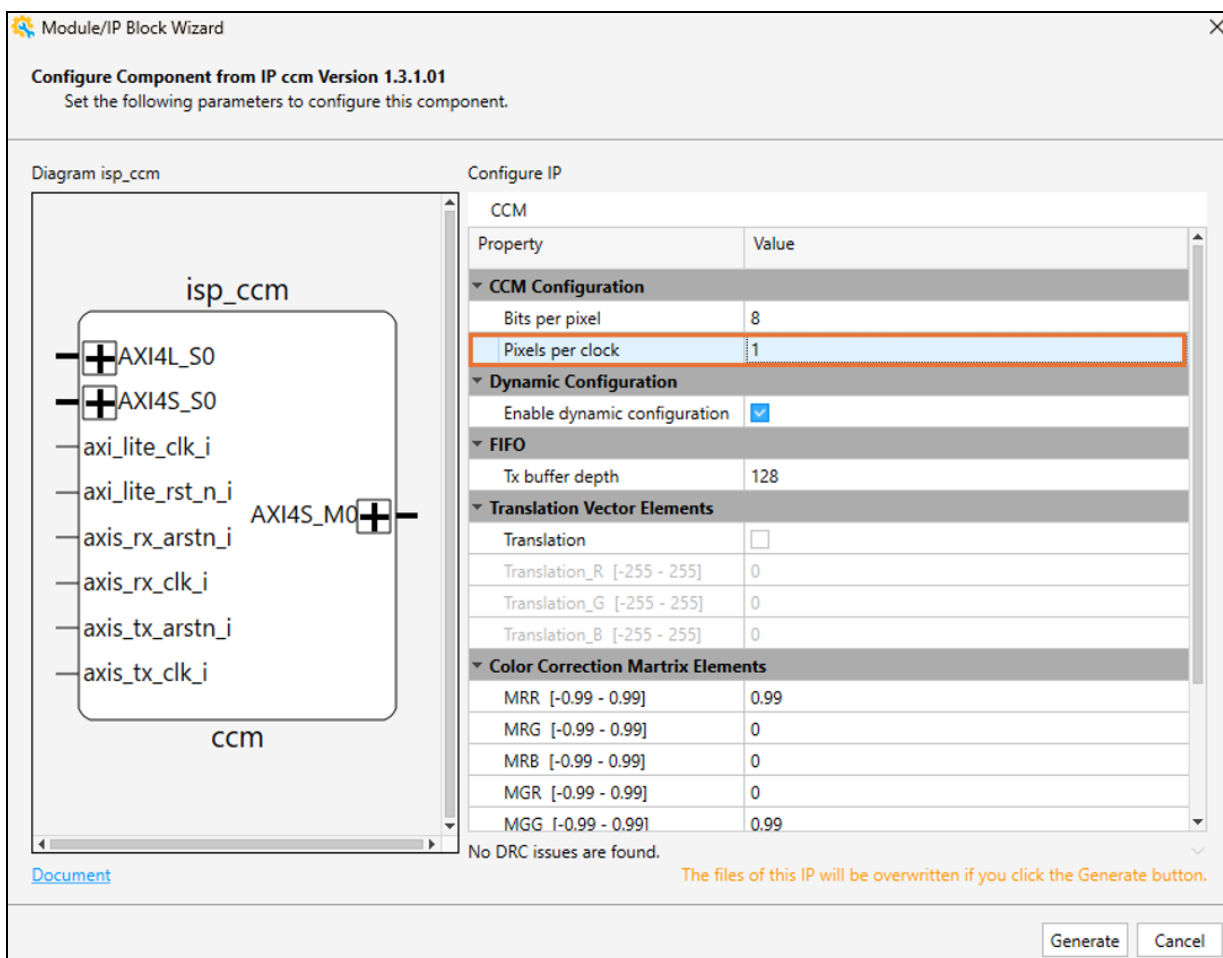

Figure 7.9. Color Correction Matrix Configuration
2. Under the **CCM** setting, set the **Pixels per clock** to 1 (Figure 7.9).